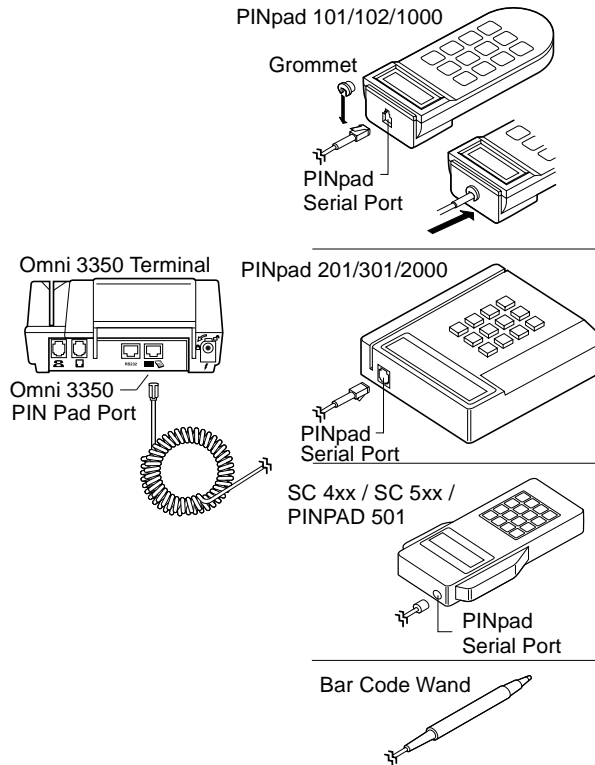

Figure 16 Optional "PIN Pad" port devices
Refer to Figure 16:
2. If installing a PINpad 101, PINpad 201, or PINpad 1000, position and insert the grommet to secure the cable connection, as shown in Figure 16.